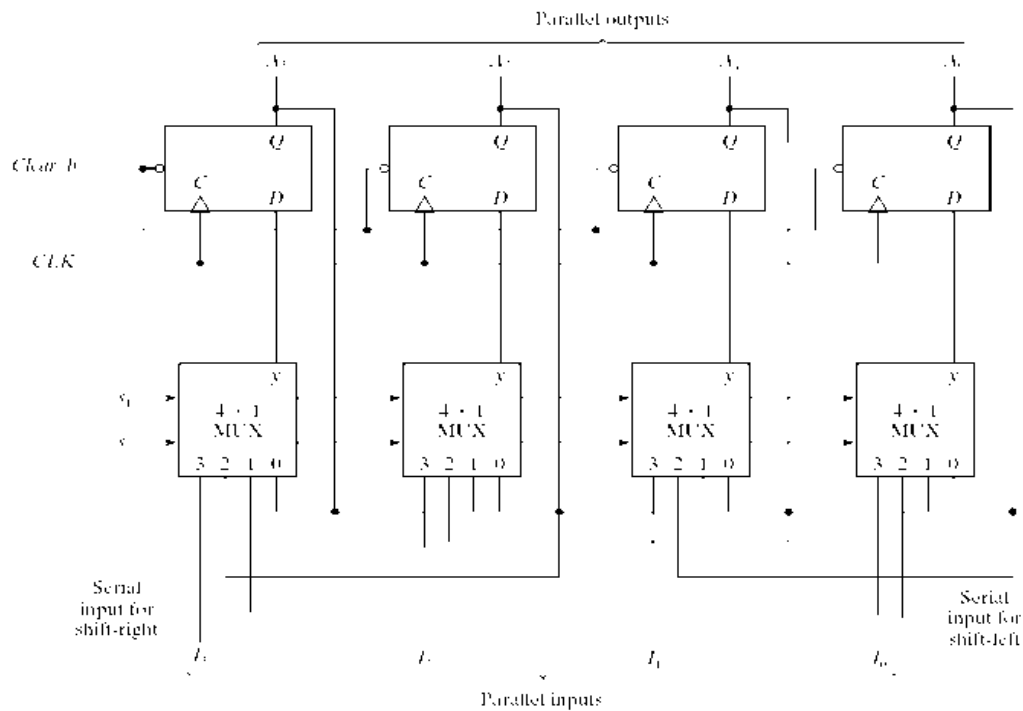

Figure 3.36:4-bit universal shift register
- Figure 3.36 shows the 4-bit universal shift register.